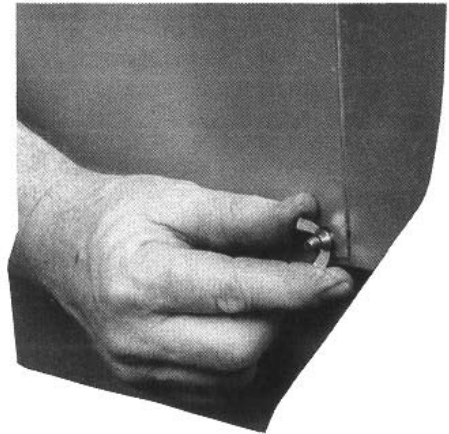

Figure 22: Securing Draft Hood to Canopy
- 3. Secure Rear Draft Hood to Canopy with wing nuts provided. See Figure 22.